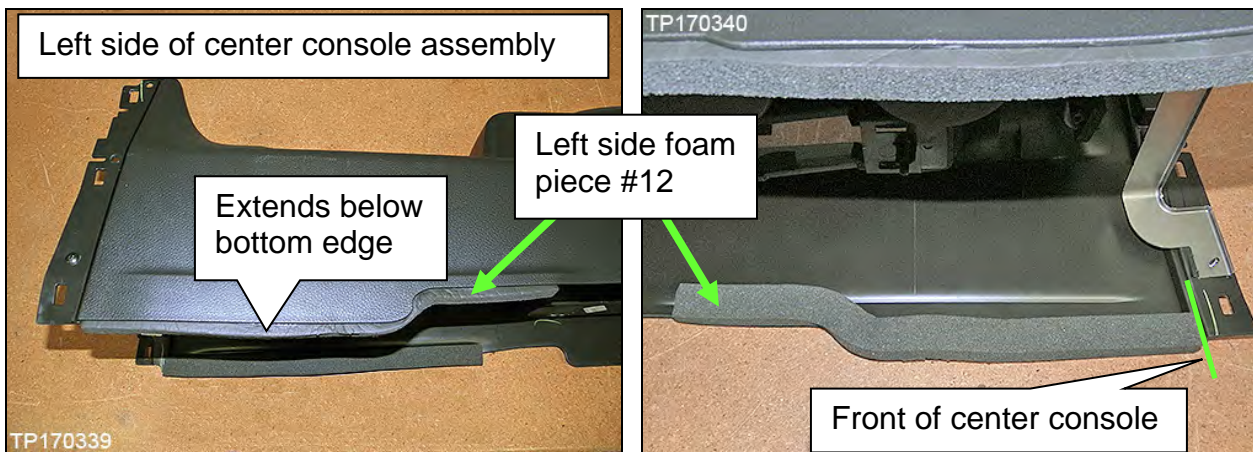

Figure 10D
5. Attach two (2) foam pieces (foam piece #12) one at a time to the lower edge of the center console assembly where shown in Figures 10D and 11D as follows:
- Extends below the bottom edge (Figure 10D and 11D).